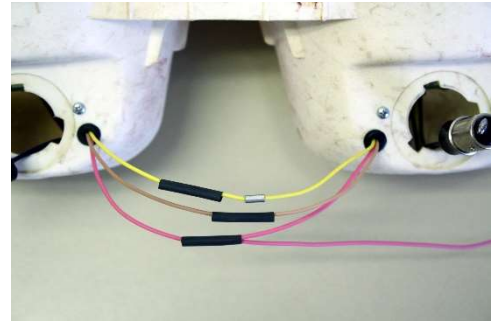

Figure 3
- 4.5. On each housing, bring each matching color wires (except Pink) together for splicing with moderate slack. Cut off excess wire length and strip off 3/16" insulation off each wire. Slide a piece of heat shrink tubing over all wires on the outboard wires. Using the butt splices provided, insert the one color wire into each side and crimp the wires together. Then slide the heat shrink tubing over splice and shrink into place with a heat gun or other suitable heat source. (See Figure 3)